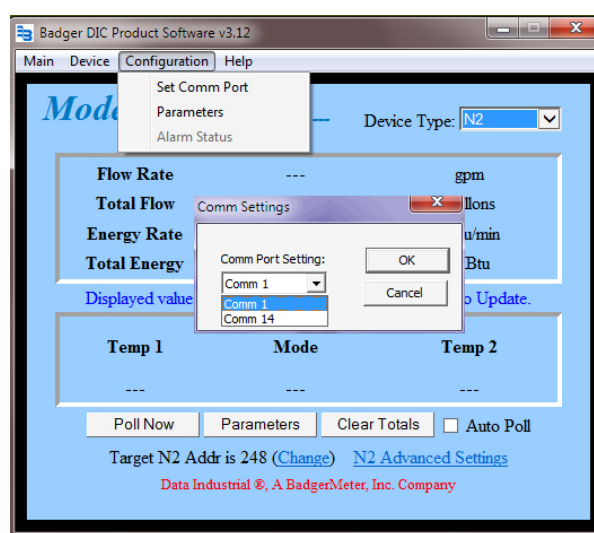

Figure 12: Set Comm port
6. From the **Configuration** option in the menu bar, select **Set Comm Port**. The Comm Settings window opens as shown in Figure 12.